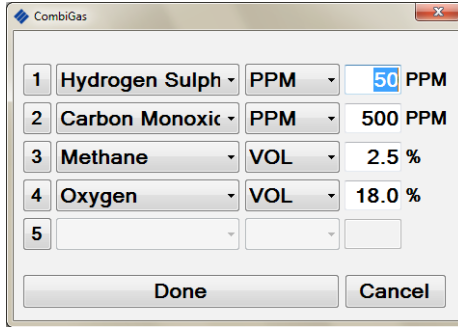

Fig. 3-16 Edit Gas Value
- If the gas value requires editing, highlight current value then type replacement value, as illustrated in Fig. 3-16.